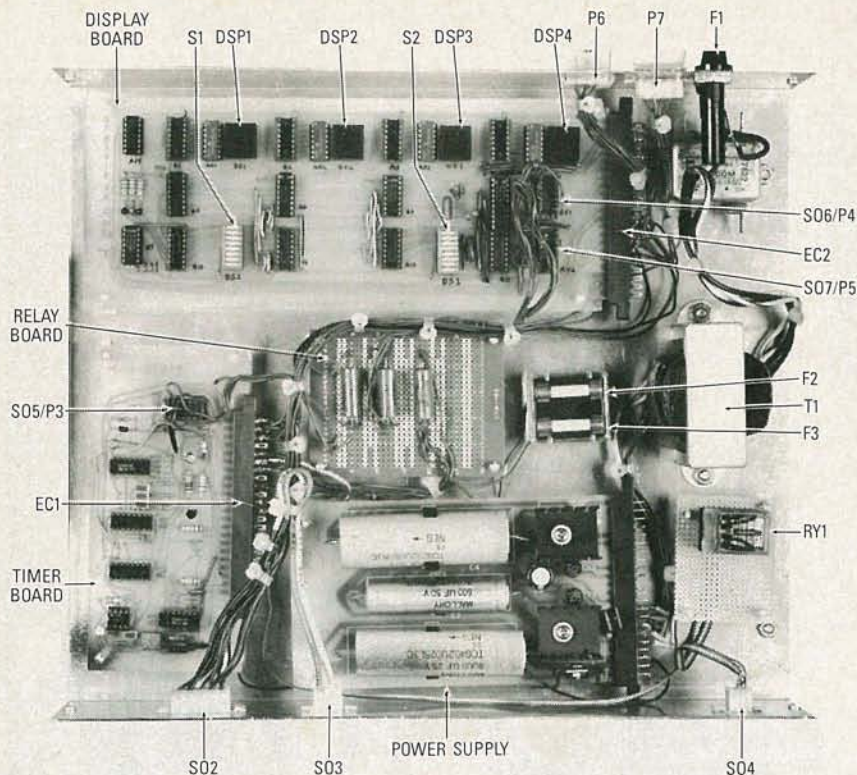

FIG. 1—THE MAIN CHASSIS ASSEMBLY of the alarm. There are two circuit boards, two relay boards, and a power-supply board.
- **Programming**—The four-digit entry code is programmed using eight-position DIP switches S1 and S2, shown in Fig. 1. Four individual switches from both S1 and S2 are used to encode each digit of the four-digit entry code. Hence, each digit